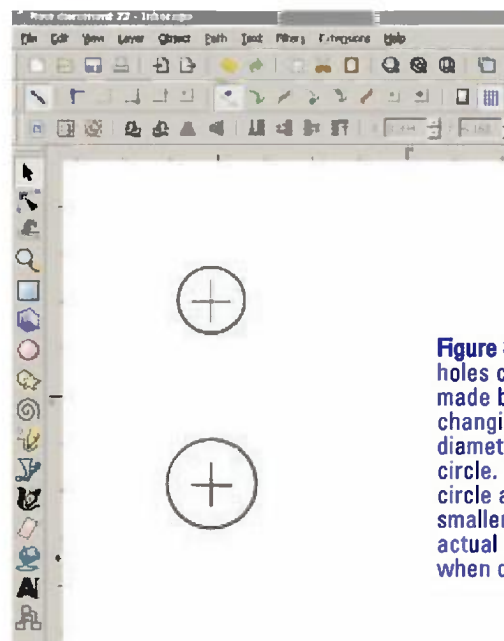

Figure 8. Other holes can be made by changing the diameter of the circle. Make the circle a little smaller than the actual hole when drilled.
3. After resizing the circle, select both circle and cross-hairs, and re-align on the vertical and horizontal centers as shown in **Figure 8**. Group the objects together to make it easier to manipulate them. Make copies as needed.